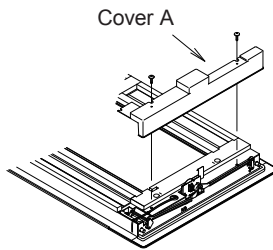

Fig. 3-2-11
- (1) Remove the 2 screws and remove the cover A from the back of the panel. (Fig. 3-2-11)